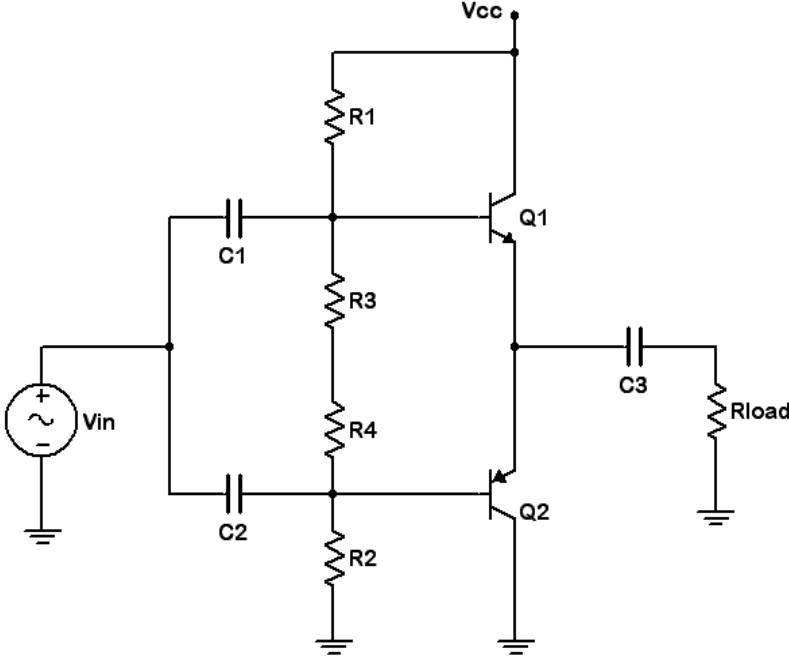

Figure 1
1. Consider the circuit of Figure 1 using $V_{cc} = 6$ volts, $R_1 = R_2 = 2.2$ k Ω , $R_3 = R_4 = 220$ Ω , $R_{load} = 100$ Ω , $C_1 = C_2 = 10$ μ F and $C_3 = 100$ μ F. Ideally this circuit will produce a compliance of just under 6 volts peak-peak.
2. Build the circuit of Figure 1 using $V_{cc} = 6$ volts, $R_1 = R_2 = 2.2$ k Ω , $R_3 = R_4 = 220$ Ω , $R_{load} = 100$ Ω , $C_1 = C_2 = 10$ μ F and $C_3 = 100$ μ F. Disconnect the signal source and insert an ammeter into the collector of Q1. Record I_{CQ} in Table 1.